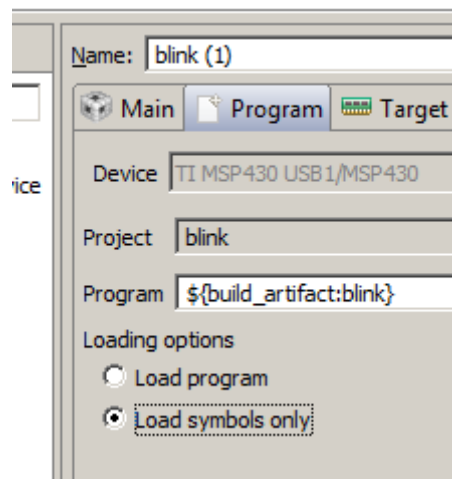

Figure 9. Attach Symbols
4. Select "Load symbols only" (see Figure 9).